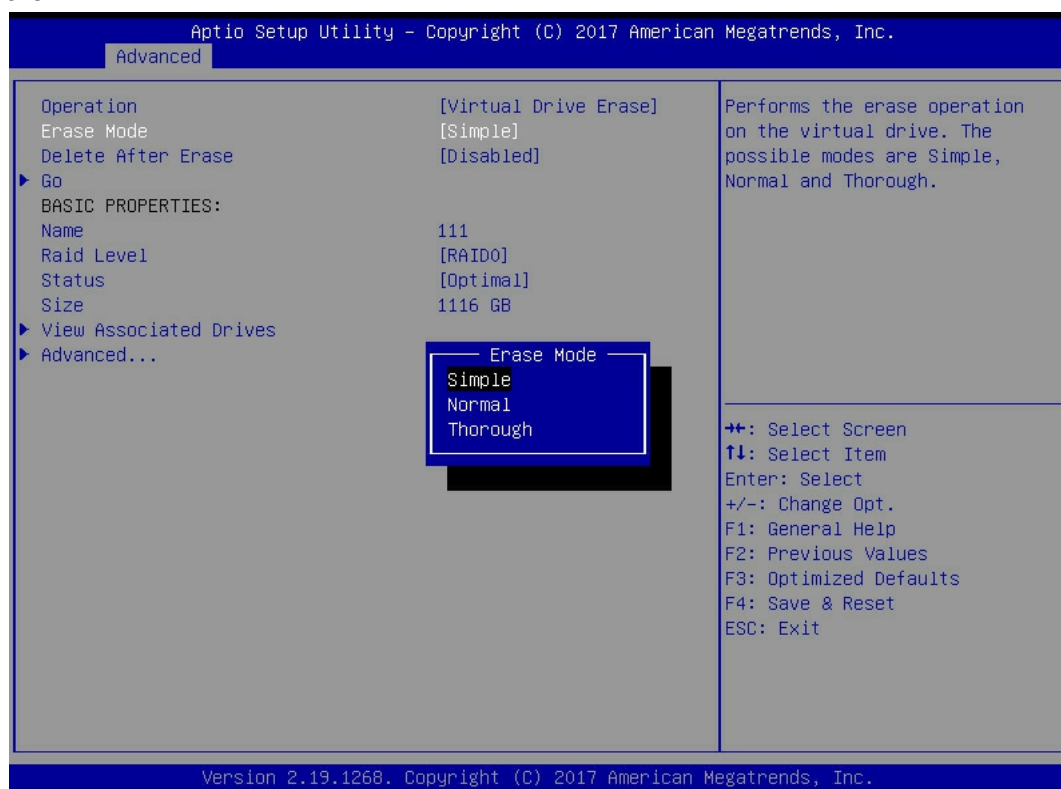

Figure 6-87
- d) Enter the interface shown in figure 6-87, press enter, and then select erase mode in the pop-up dialog box (simple is recommended as the default mode).
✧ Figure 6-87 erase mode interface